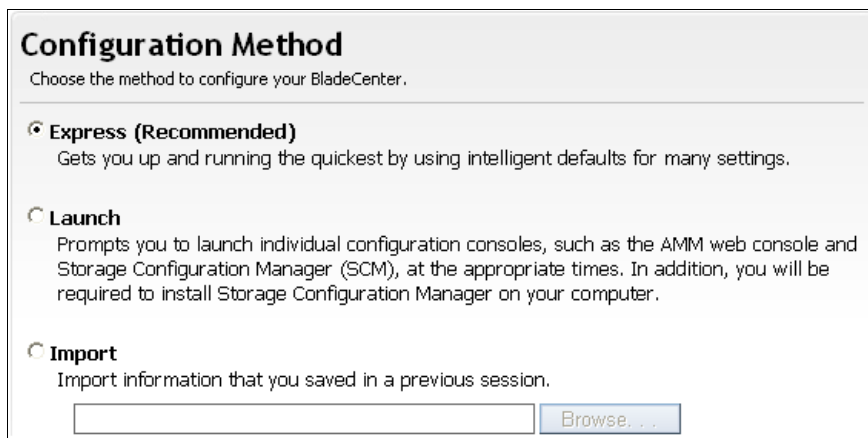

Figure 2-5 Choosing the configuration method
- Configure the BladeCenter. Select from the three options in the “Configuration Method” panel (Figure 2-5). An explanation of each option follows Figure 2-5.